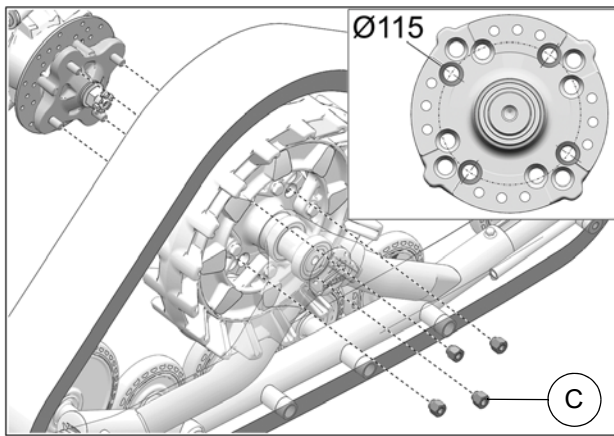

Fig. 17
7. Secure undercarriage to front hub using the lug nuts (C) provided. Use bolt circle Ø115mm. See Fig. 17